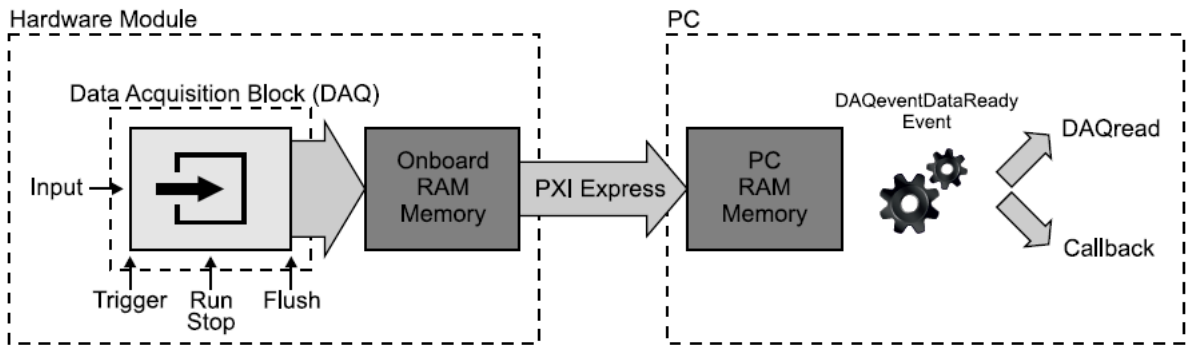

Figure 6 M31/M33XXA Digitizers words acquisition operation
- 1 Configuration: A call to the function “**DAQconfig()**” allows the user to configure, among others, the trigger method (Table 7), the number of DAQ cycles to perform (number of triggers), the number of acquired words per cycle (DAQpointsPerCycle), and the number of words that must be acquired before interrupting the PC (DAQpoints). Figure 6 illustrates the flexibility of the DAQ block operation.
Onboard memory and DAQpoints selection: The acquired words are first stored in a DAQ buffer located in the module onboard RAM and then sent to the PC RAM via the ultra-fast PXI Express bus (Figure 6) using dedicated DMA channels. This DAQ buffer, and therefore the minimum amount of onboard RAM needed for an application, is directly the size of the data array, which you want to
- PC load: The DAQ buffer must be chosen to allow the PC enough time to process each DAQ buffer (DAQdata) and to handle interrupts and process-context switching tasks. For example, if a computer requires 500 ms to process DAQdata, the buffer size must be such that it can store more than 500 ms of input words without interrupting the computer. The DAQ block facilitates the task of adjusting the PC processing rate with the introduction of the DAQ cycles (Figure 6).